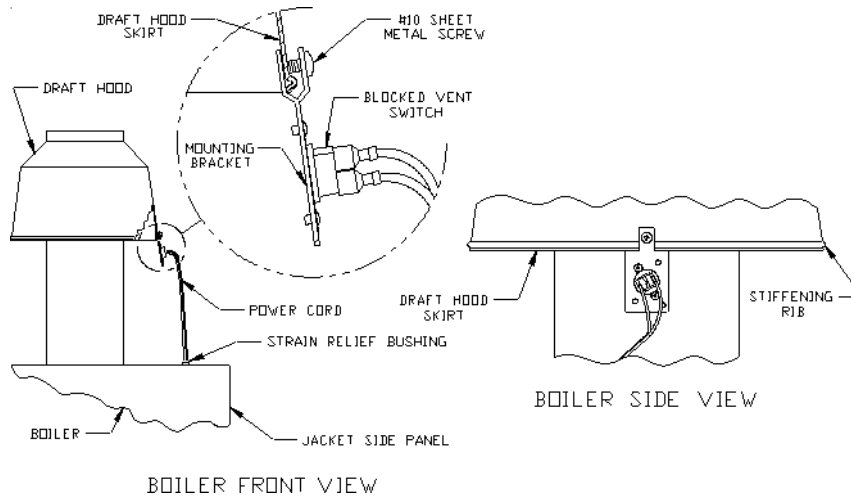

Figure 16: Blocked Vent Switch Installation Details
- 13) On all Series 16 boiler models install the blocked vent switch assembly to the supplied external draft hood. See Figure 16. The assembly consists of power cord and switch attached to mounting bracket and is shipped taped to the top of boiler jacket. The procedure is outlined below:
- b) Position mounting bracket onto lower edge of draft hood skirt. Locate center tooth (with #10 sheet metal screw) on outside and other two teeth inside draft hood skirt. See Figure 16.
- f) Verify power cord, mounting bracket and blocked vent switch are secure and located as shown in Figure 16.